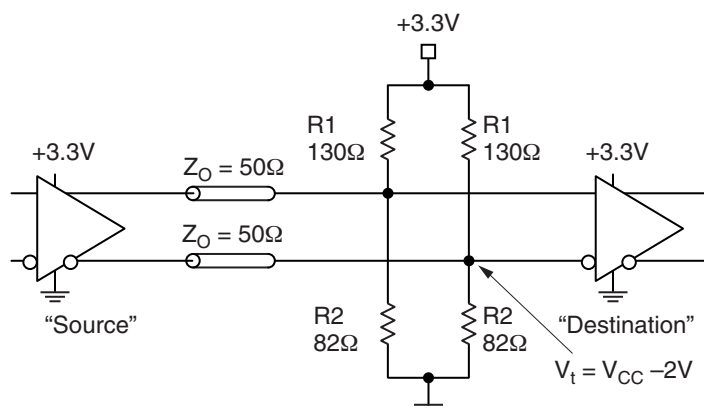

Figure 5. PECL Parallel Termination Thevenin Equivalent (Note 1)
- 100Ω termination across the output pair is NOT recommended for LVPECL. See “*Output Termination*” section, Figures 5 to 7.